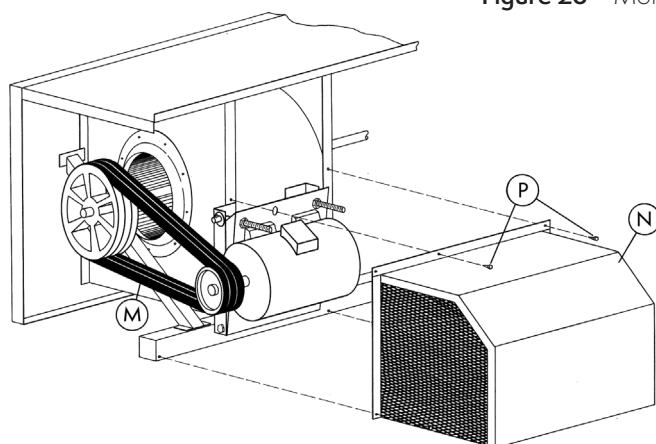

Figure 27 – Motor Guard and Powerband Belt Installation
6. Install the belts **M** around the fan sheave and motor sheave (**Figure 27**). Tighten belts by adjusting nuts on J-bolts. Do not over tension the belts. When the belts are properly adjusted, the deflection at the center of the belt should be approximately 1/2" with moderate hand pressure.
9. To install the motor guard **N**, line up the holes and fasten with the self-tapping screws **P** (**Figure 27**). Check to ensure that the motor guard does not make contact with the drive sheave or belts.